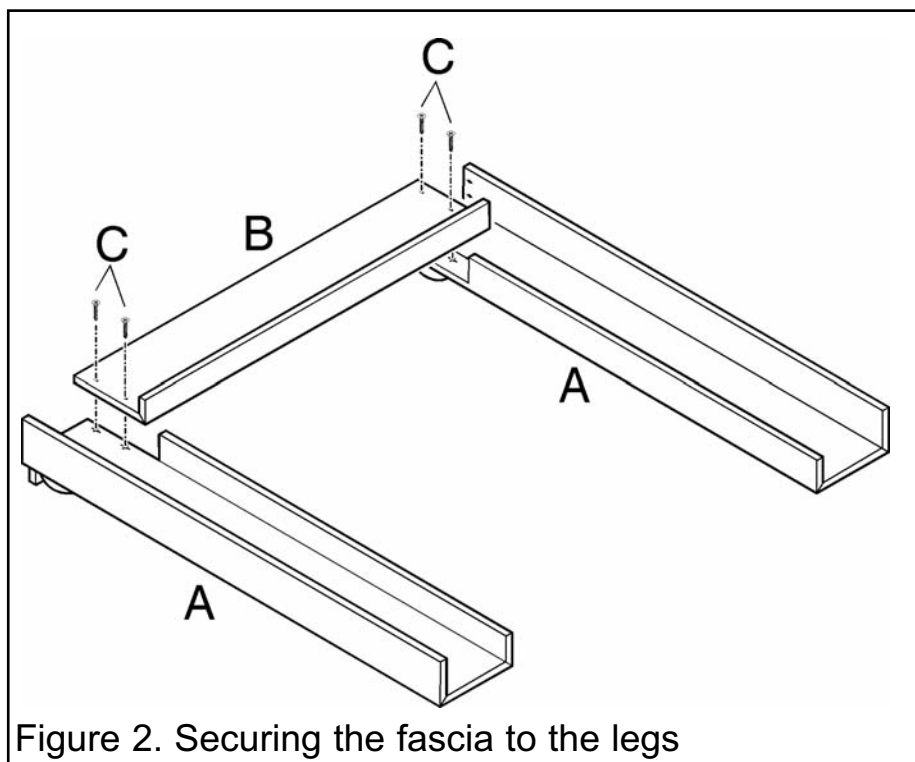

Figure 2. Securing the fascia to the legs
- Take the surround legs (A) and lie them on a flat level surface. Take fascia (B) and locate it to legs (A). Secure in place using the four screws (C) supplied (See figure 2).